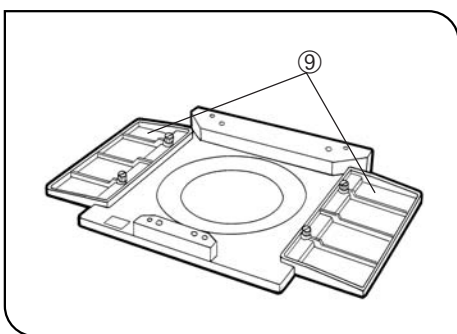

Fig. 71
⊙ When the mechanical stage is not used, stage extender plates ⑨ can be attached at both sides of the plain stage. (Fig. 71)